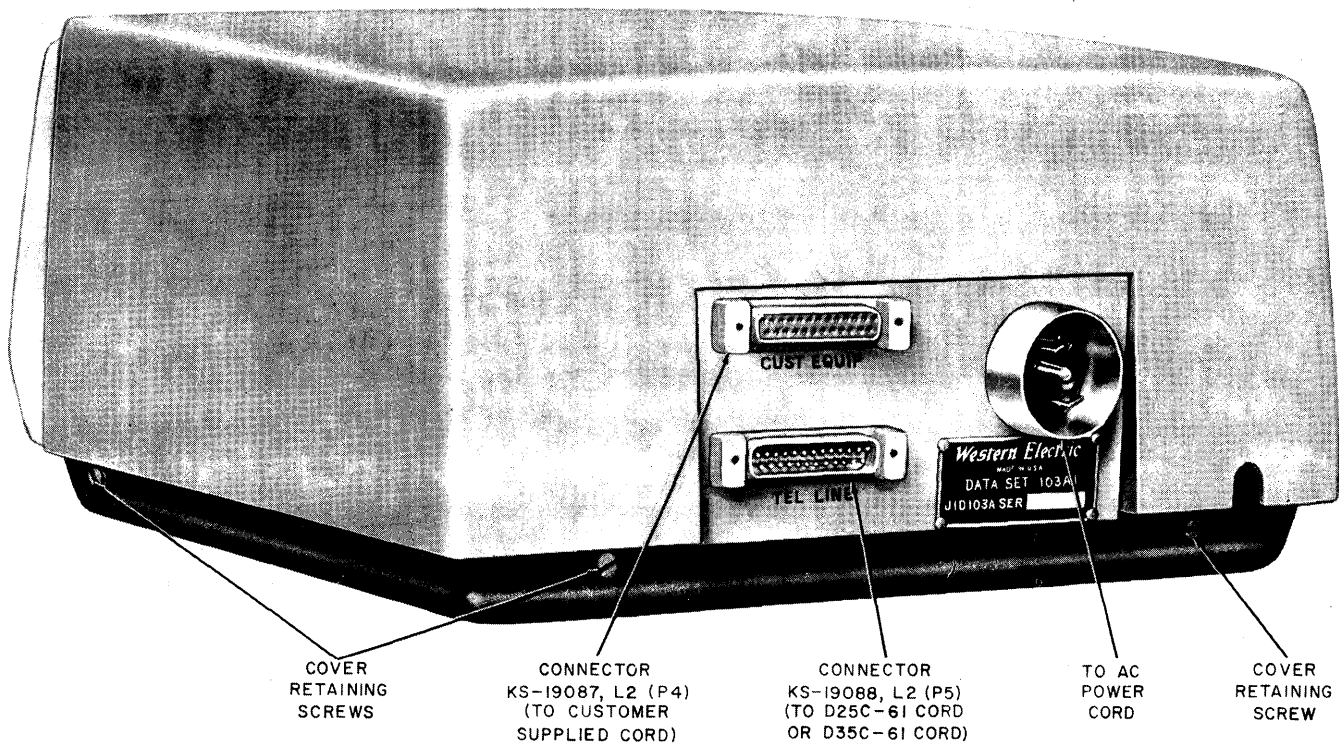

Fig. 4 — Data Set 103A Type, Rear View
2.02 Components of Data Set 103A type are enclosed in a two-tone gray plastic covered case. The cover is held in place by four retaining screws in the base (Fig. 4). See the section entitled Data Set 103A Type, Maintenance (591-014-300) for cover removal and replacement.